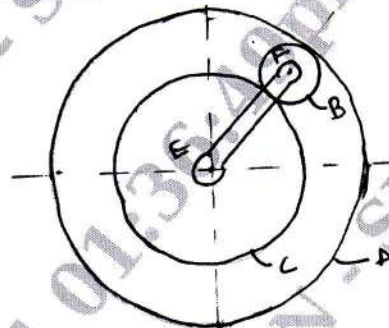

Fig Q6(b)
b. An epicyclic gear consists of 3-Gear A, B and C as shown in Fig Q6(b). The gear A has 72 internal teeth and gear C has 32 external teeth. The gear B meshes with both A and C and is carried on an arm EF which rotates about the centre of 'A' at 18rpm. If the gear 'A' is fixed. Determine the speed of gears B and C.